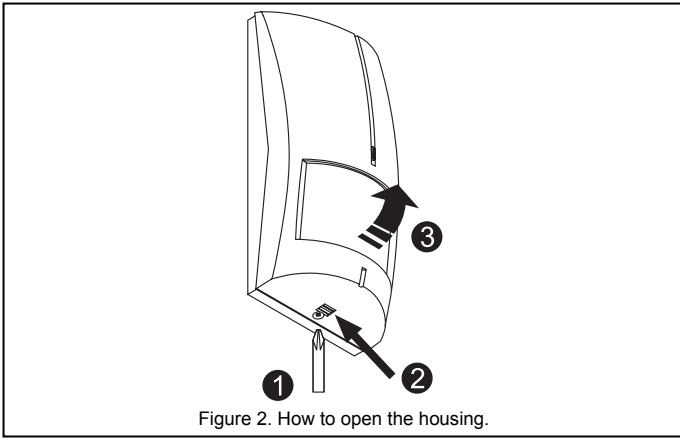

Figure 2. How to open the housing.
1. Open the housing as shown in Figure 2.